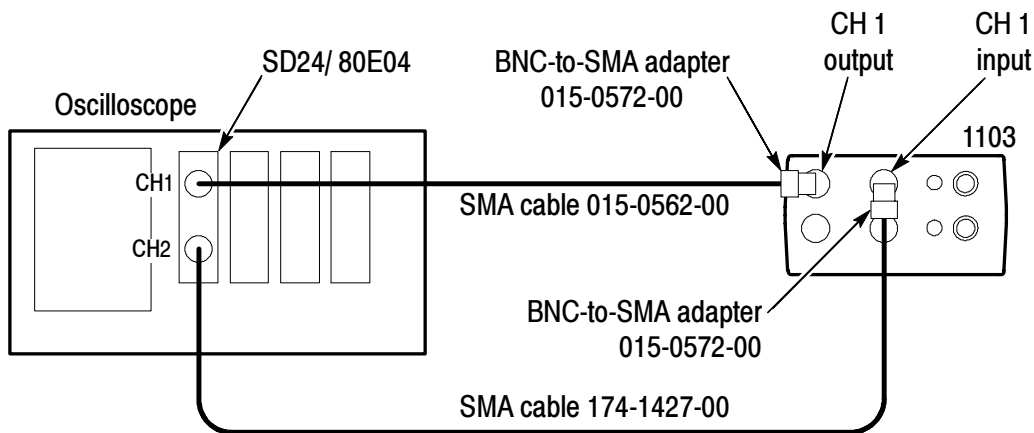

Figure 20: Test system rise time setup
1. Connect the test equipment as shown in Figure 20.